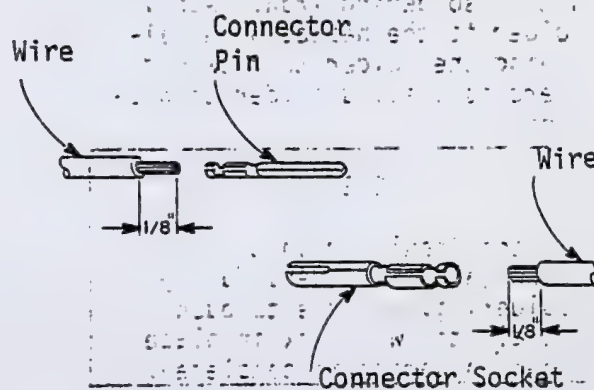

Figure 5-49A. Connector Pin and Connector Socket Wire Insertion
1. Insert the exposed portion of a wire that you have prepared into a connector pin or connector socket as shown in Figure 5-49A.